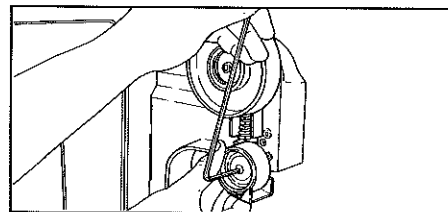

Figure 22. Install the wheel guard and the left idler wheel below the tracking wheel.
- b. Remove the left idler wheel assembly (15, 16, 17) and the idler wheel guard (18).
- c. Install the idler wheel assembly, wheel guard and screw below the tracking wheel. Position the wheel guard horizontally. (See Figure 22.) Tighten screw (14) securely.